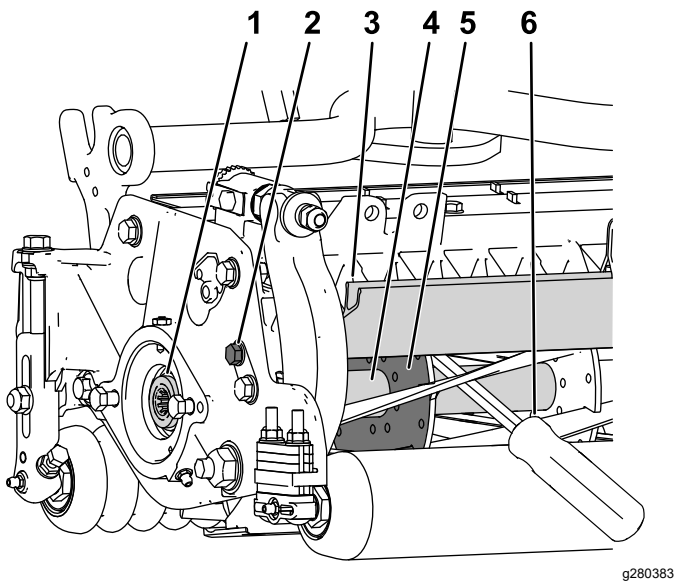

Figure 42
1. Loosen the shield-bolt on the left side of the cutting unit and raise the rear shield (Figure 42).
2. Insert a long-handled pry bar (recommended 3/8 x 12 inches with a screwdriver handle) through the back of the cutting reel, closest to the side of the cutting unit that you will be torquing (Figure 42).
3. Place the pry bar against the weld side of the reel support plate (Figure 42).